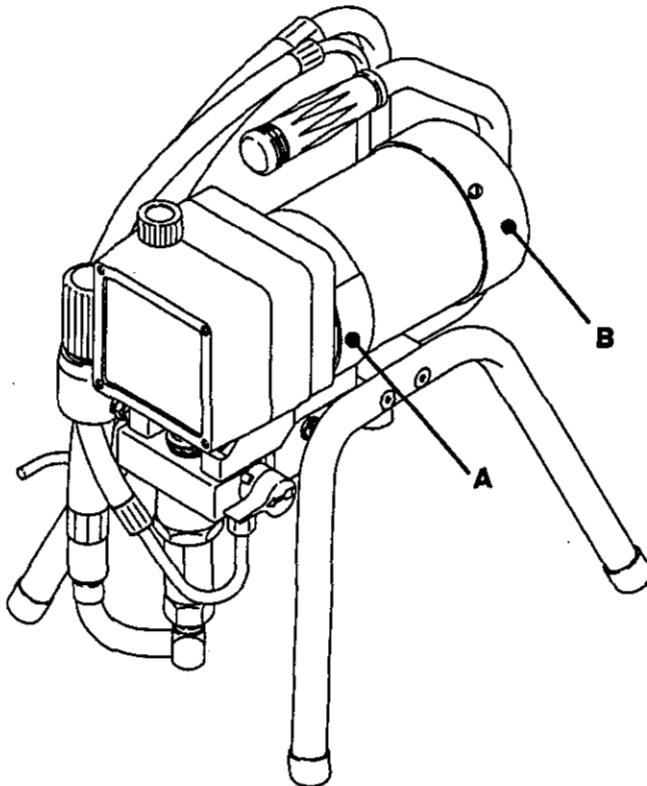

Fig 14
Remove the motor brush inspection covers (A). See Fig 14.
Remove the handle (24) and the fan cover (B). See Fig 14.